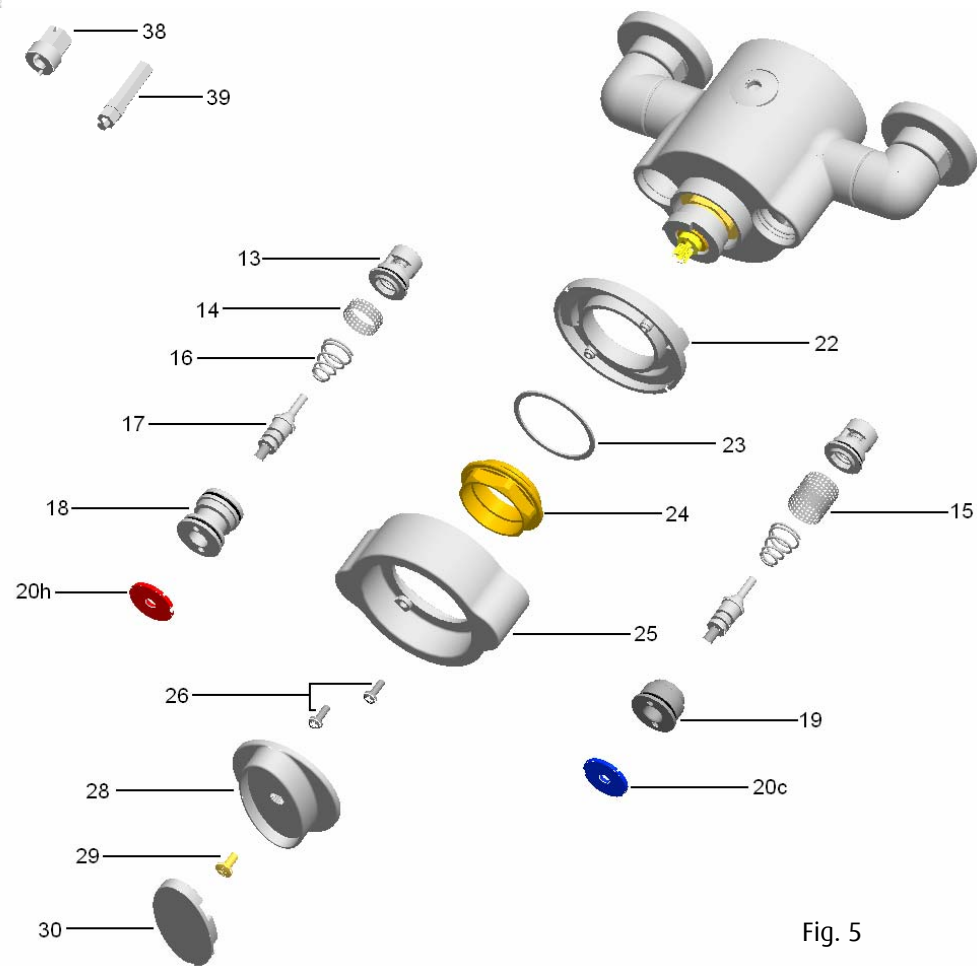

Fig. 5
8.6 Cleaning the Filters (See Fig. 5)